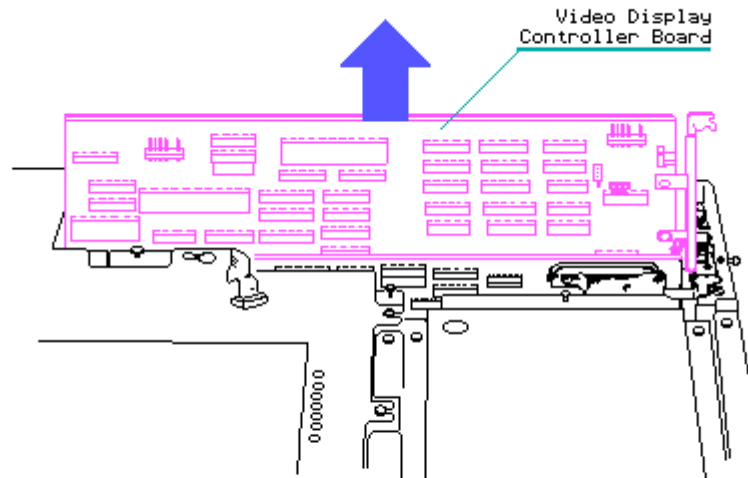

Figure 7-37. Removing the Video Display Controller Board
3. Carefully lift the board up and out of its J103 connector location on the system board (Figure 7-37).